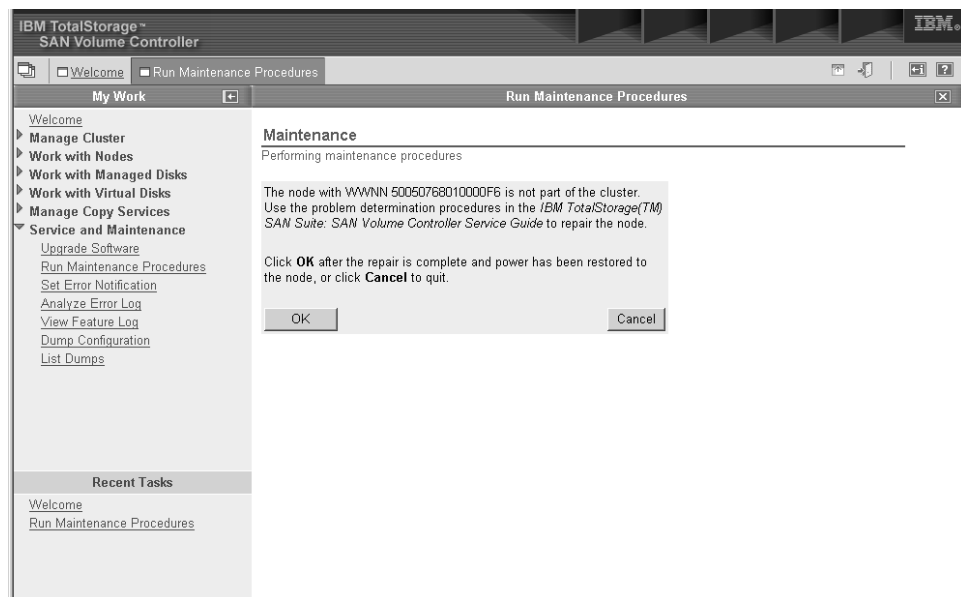

Figure 38. Example of what is displayed for cluster action
4. Click OK to display what is shown in Figure 38